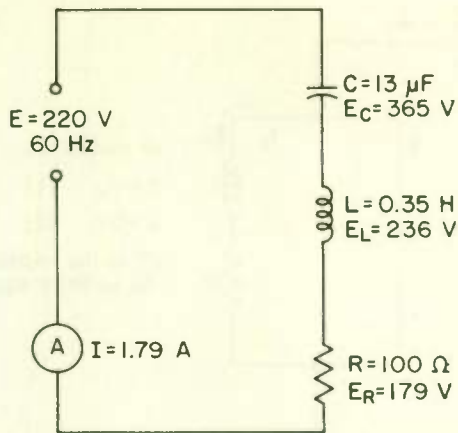

Fig. 35
2. Use two different formulas to find the power dissipated in R in Fig. 35.